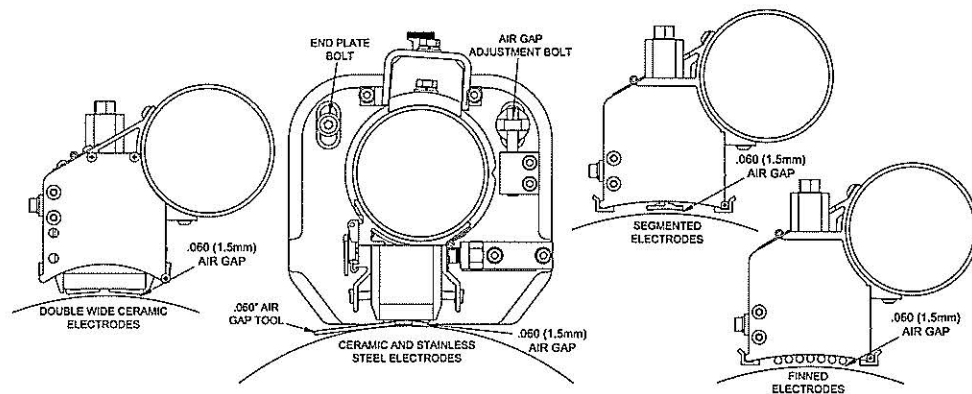

Figure 1
- Verify the air gap is even across the entire length of the electrodes by inserting a .060" (1.5mm), or desired thickness, flexible feeler gauge between the electrode and ground roll along the electrode length (**Figure 1**). Do not slide the feeler gauge across the face of the ground roll as this may scratch the roll surface.
- If the air gap is either too loose or too tight, loosen the end plate bolts on each end of the electrode assembly to adjust the air gap (**Figure 1**).
Rotate each electrode assembly into its maintenance position and engage the locking pin to secure the assembly, Figure 1.